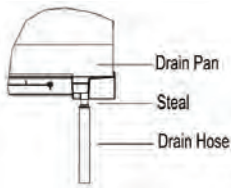

Fig.13
- Insert the drain pipe to the drain outlet of the unit and then tighten the clamp securely with tape. (Fig. 13)